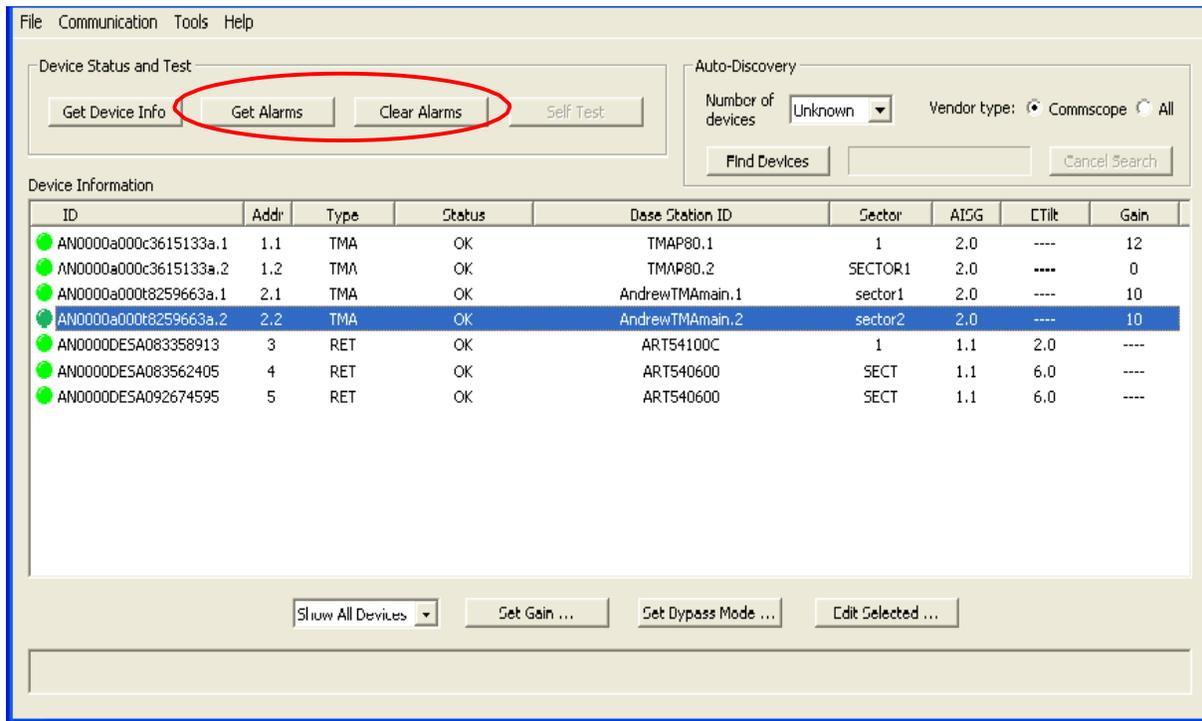

Figure 11-4. Select TMA to request for Alarm Status.
- To query the TMA for its alarm status, first click on the TMA in the **Device Information** list (Figure 11-4).
- Now the TMA has been selected, Click **Get Alarms** to retrieve the current alarm status (Figure.11-4)
After examining the alarms status results, any alarms found may be cleared using the **Clear Alarms** button (Figure 11-4).
1. Click on the TMA in the **Device Information** list that has an alarm to be cleared. (Figure 11-4)